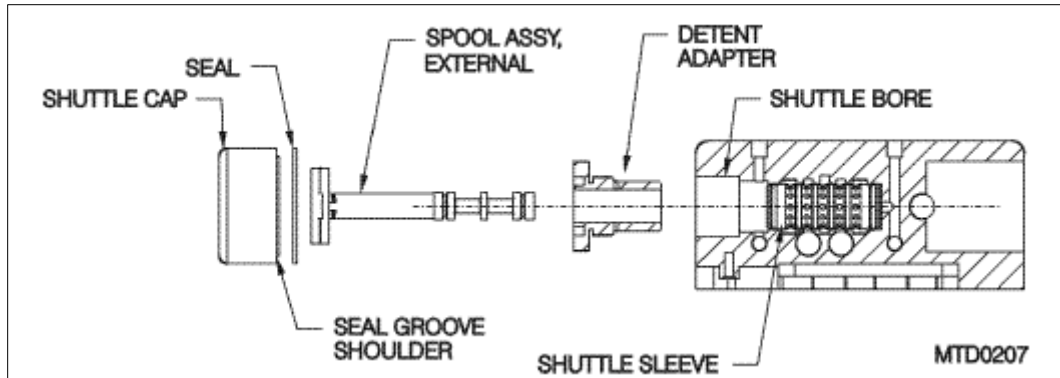

Figure 4-3: Shuttle Assembly Diagram
- Thread detent adapter into shuttle bore using 3/4" pin tool. (Detent adapter must be flush against base as shown in Figure 4-3). Torque to 45in-lbs.